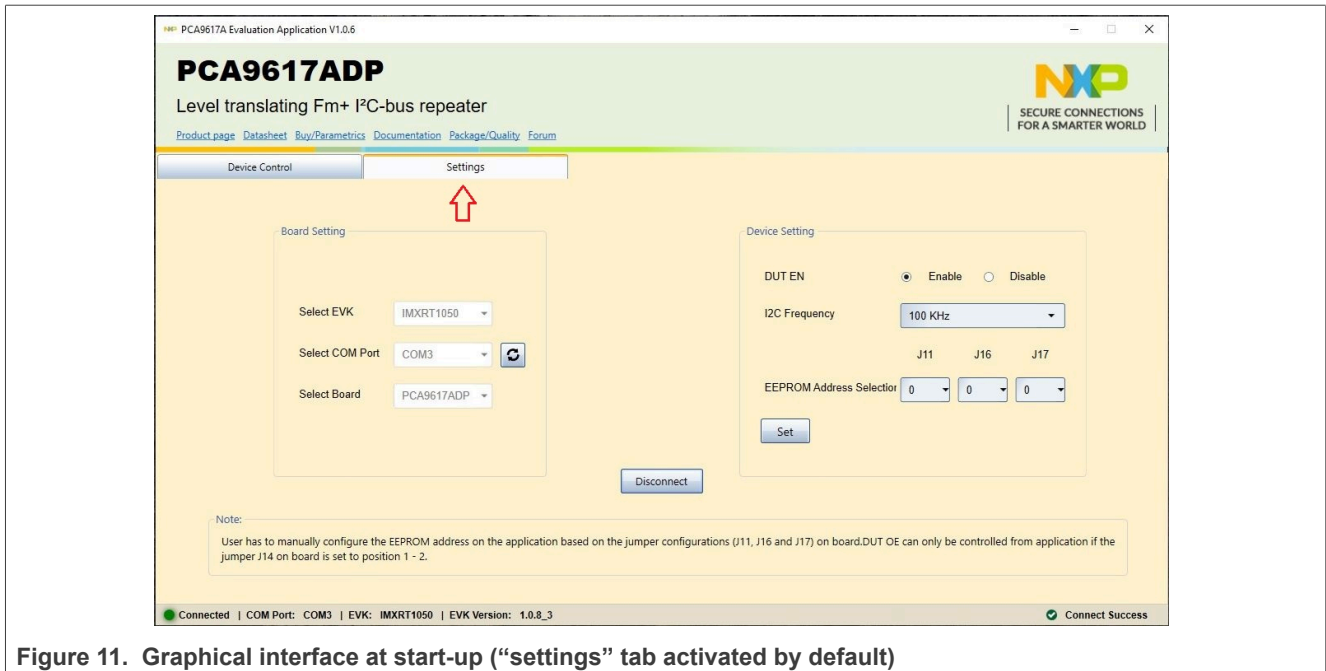

Figure 11. Graphical interface at start-up (“settings” tab activated by default)
Once installation is complete, assure that one of the mentioned three EVKs with attached PCA9617A-ARD daughterboard is connected to a PC and powered-on. Open “NXP\_GUI(PCA9617A,PCA9846)” GUI application. An interface appears as shown in Figure 11:
- **Select COM port:** displays port selected for the communication. The port is automatically selected by the system (COM 3 is selected in Figure 11).
- **Select Board:** allows the user to select the correct daughterboard (the application can support two different boards). In Figure 11, the selected board is PCA9617A. Selecting the wrong daughterboard causes the connection to fail and a pop-up window with the message: “*Unable to Connect with Daughter Card*” appears on the screen.